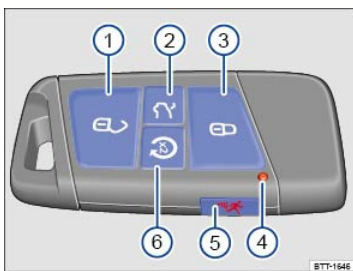

Fig. 107 Remote control vehicle key with remote start button.
In some vehicles, you can start the engine from outside of the vehicle with the remote start button ⇒ Fig. 107④ on the remote control vehicle key. This feature helps to cool or warm the passenger compartment to about +68 °F (+20 °C) ⇒ ▲.
- Press the ④ button on the vehicle key one time ⇒ Fig. 107③.
- Within the next 3 seconds, press the ⑤ button twice in a row ⇒ Fig. 107④.
- Press the  button → Fig. 107⑥ or the panic button on the vehicle key → Fig. 107⑤ to switch the engine off.